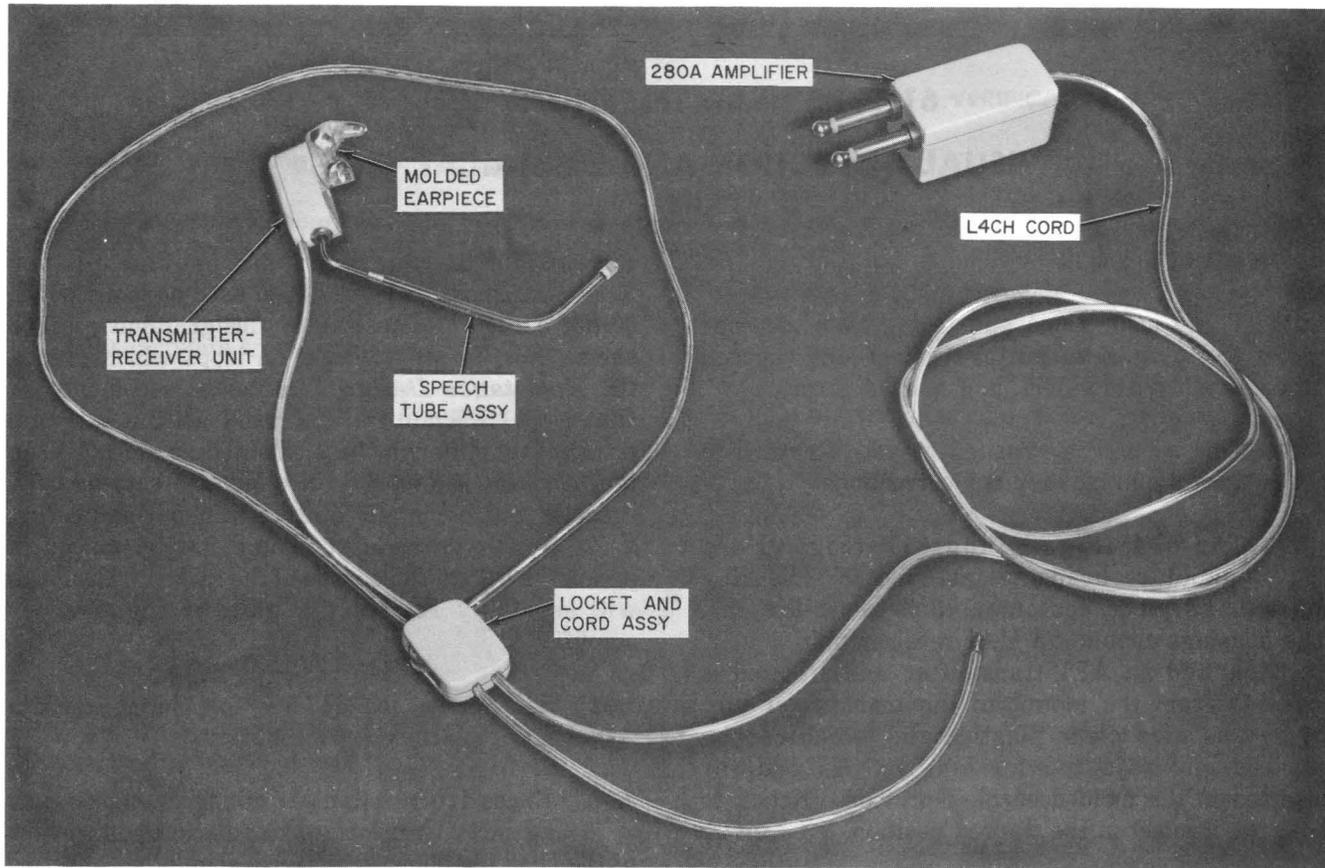
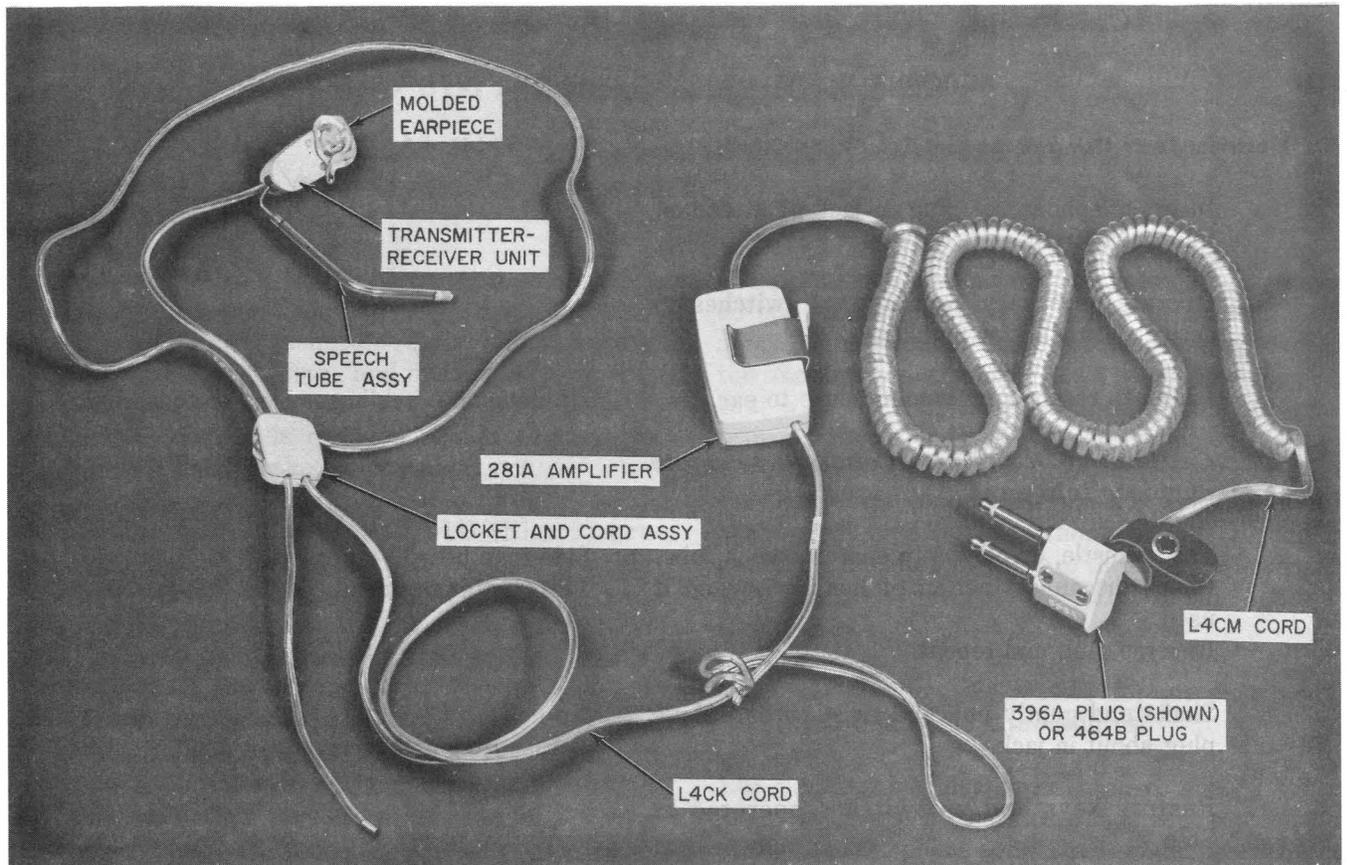

Fig. 1—61A Head Telephone Set
Fig. 2—61B Head Telephone Set
1.03 The 61A (Fig. 1) and 61B (Fig. 2) are miniature headsets fastened to a hearing aid-type earpiece custom-molded to fit the ear. The housings contain an MA1 receiver unit, a 107A varistor, and an AE1 transmitter unit. Sound is directed from the mount to the transmitter unit by means of a clear plastic tube which can be rotated and adjusted for length. An adaptor inserted in the molded earplug provides friction to hold the headset in the desired position.